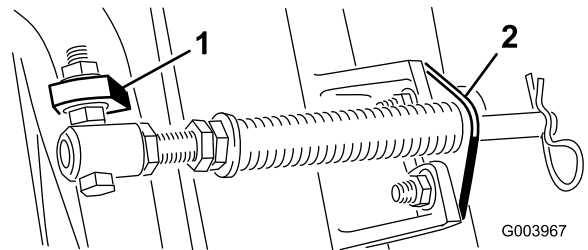

Figure 6
- C. Mount the spring tube capscrew to the opposite tab on the carrier frame and secure with the flange nut. The capscrew head is to be positioned to the outer side of the tab as shown in Figure 6.
- D. Mount the rod bracket to the cutting unit tabs with the carriage bolts and nuts (Figure 6).